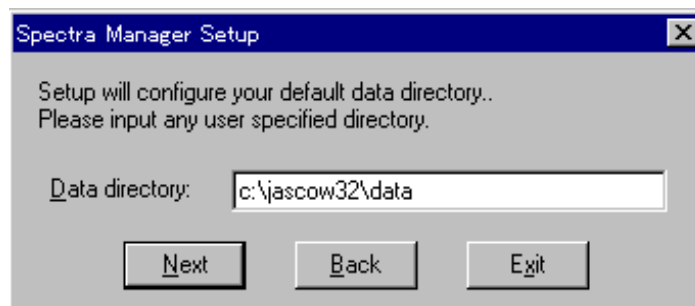

Fig. 9.8 Data Directory input screen
- (2) Click the <Next> button. The screen shown in Fig. 9.8 appears.